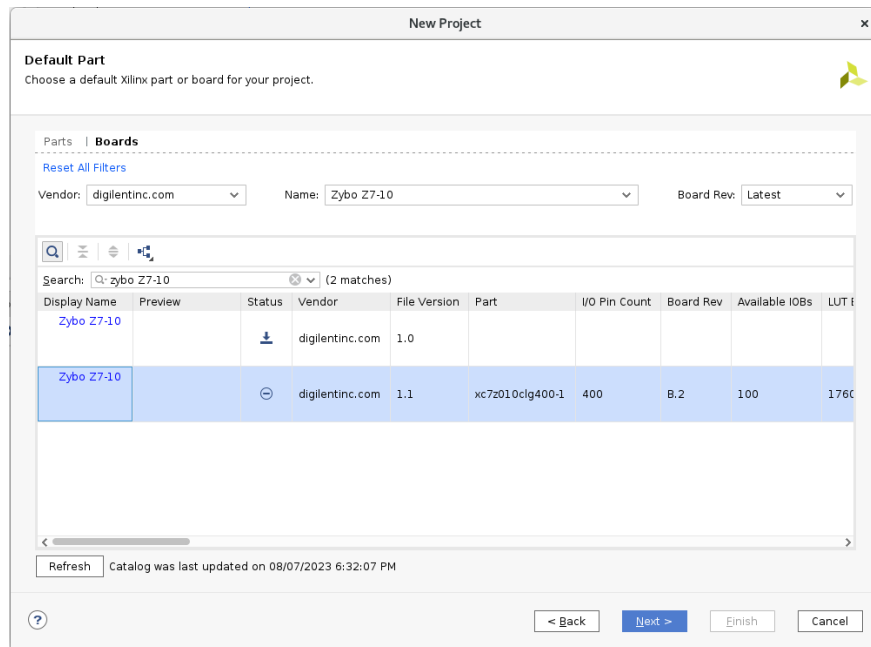

Figure 2: ZYBO Z7-10 Board
- (a) To begin, open Vivado and create a new project as shown in previous lab with one exception. In the Default part window, click on 'Boards' and select 'Zybo Z7-10' as shown in Figure 2. As discussed in Lab 1 we will select hardware using the 'Board' tab from now on. If you don't find the board, click on 'Refresh'.